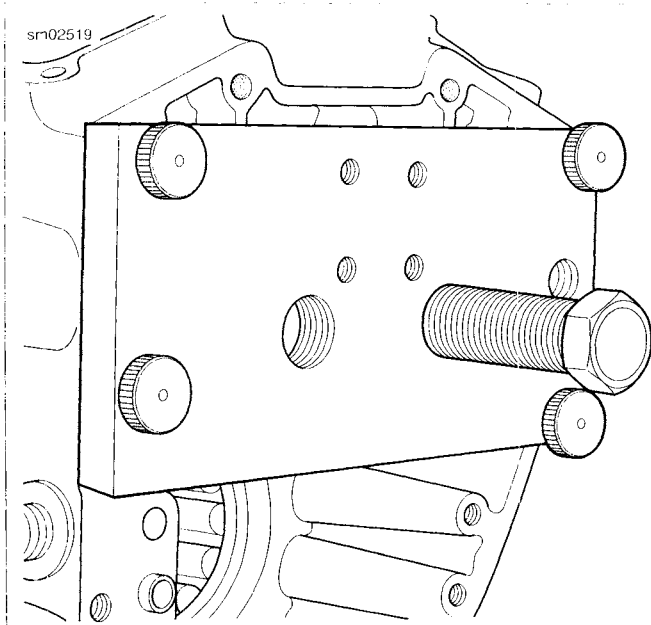

Figure 3-135. Installer Forcing Screw Installation
4. Thread installer forcing screw into stamped side of support plate (2) until threads begin to emerge from opposite side.
5. Place installer (6) at end of installer forcing screw.
7. See Figure 3-135. Aligning two large holes in support plate with needle bearing bores, hang right side of plate on ring dowel in crankcase flange.